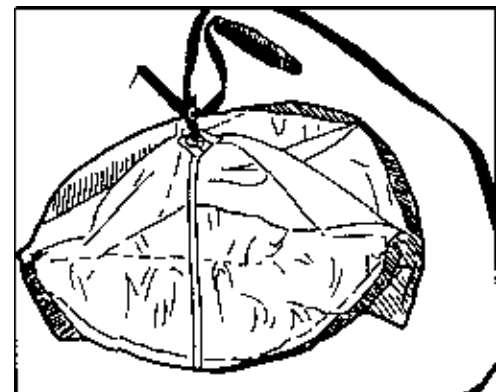

Figure 1
Step 1 Lay the pilotchute out with the mesh facing up. Pull the center of the pilotchute where the handle and bridle are attached outward to the edge of the pilotchute. *Figure 1* Fold the fabric over the mesh so it is covered.